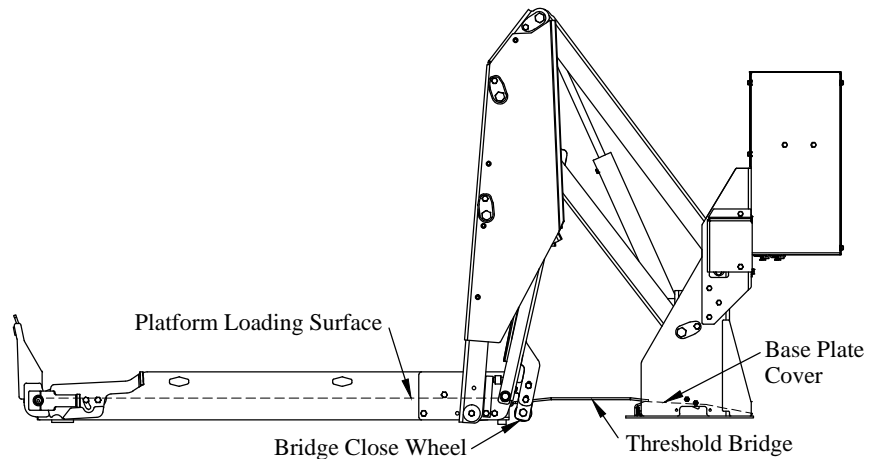

Figure 26: Platform and threshold bridge.
3. **Check** if the platform loading surface is even with base plate cover (Figure 26).
4. **Position** the platform so that it is even with the top of the base plate cover (Figure 26).
1. **Raise** the platform as high as it will go with just the pendant toggle (Figure 26).
3. **Adjust** each bridge close wheel so that it is tight against the bottom of the threshold bridge (Figure 26).